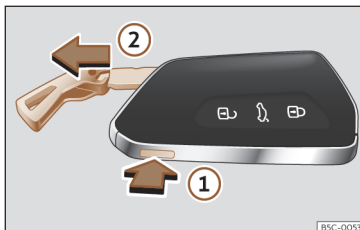

Fig. 68 Vehicle key: remove the key shaft.
- Press the >>> **Fig. 68** ① button to release the ring from the key fob and remove the key blade ②. Pressing lightly on the ring leaves it fixed as a key fob.
- Press the >>> **Fig. 68** ① button to unlock. Press and hold button ① and at the same time pull on the ring in the direction of arrow >>> **Fig. 68** ② to completely remove the key shaft.